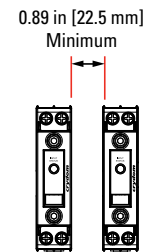

fig. 2 Multiple units mounting for maximum ratings
- To achieve maximum ratings, there must be a minimum spacing of 0.89 in (22.5 mm) between the devices in free air (as shown in **fig. 2**).
— Multiple units, no minimum spacing between components (see fig. 2)